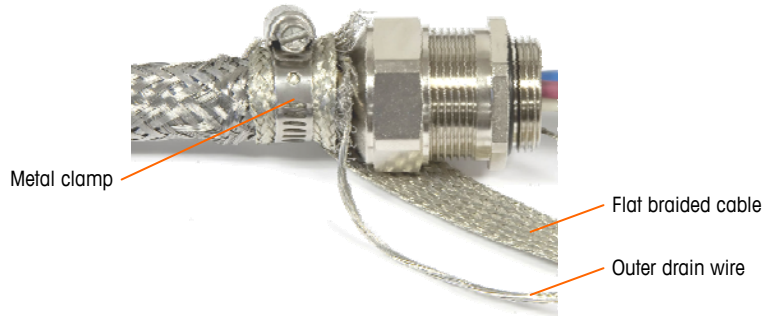

Figure 2-44: PDX Home Run Outer Braid Termination, Harsh Enclosure
- c. Pull the outer braid forward to cover the brass sleeve and wrap one end of a flat braided ground cable over it before securing everything down using the metal clamp (Figure 2-44). Route the home run cable’s outer drain wire along with the flat braided cable through a ground lug attached to the